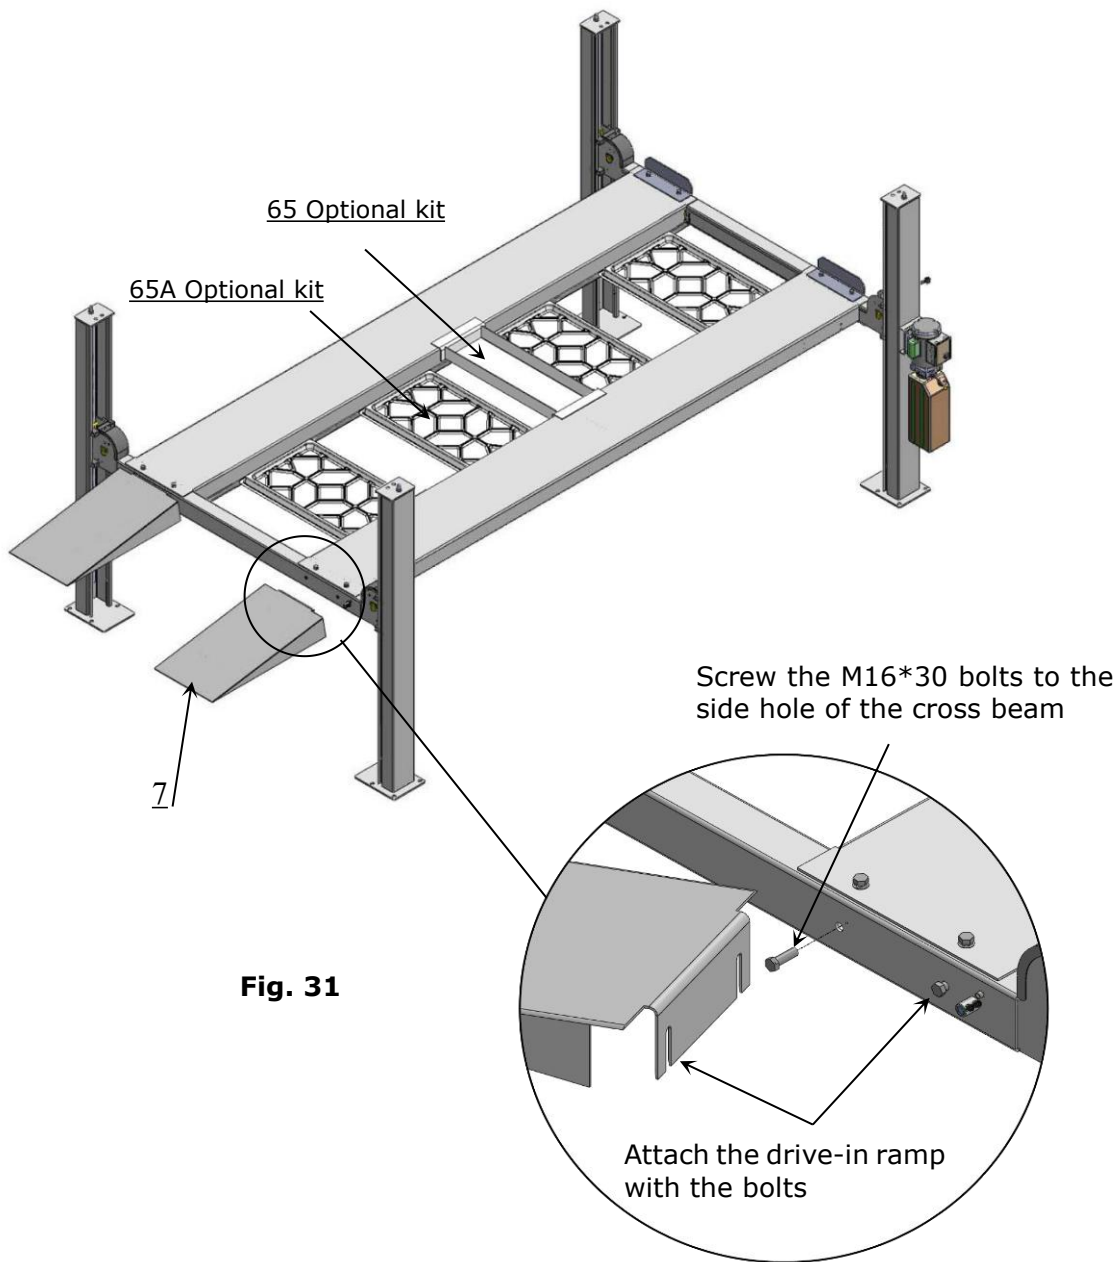

Fig. 31
N. Install drive-in ramp, jack tray and plastic oil pans (See Fig. 31).